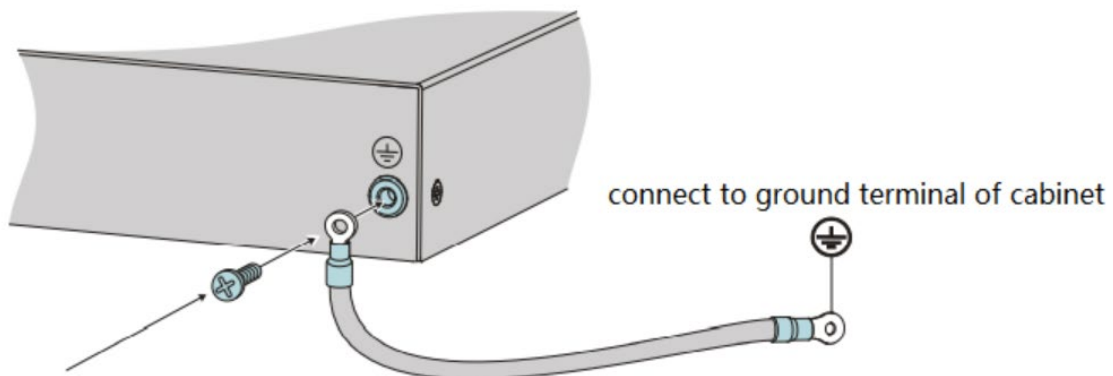

Figure 26: Grounding the device
- ☐ Install the grounding screw at the rear of the device to the protective conductor, see Figure 26.